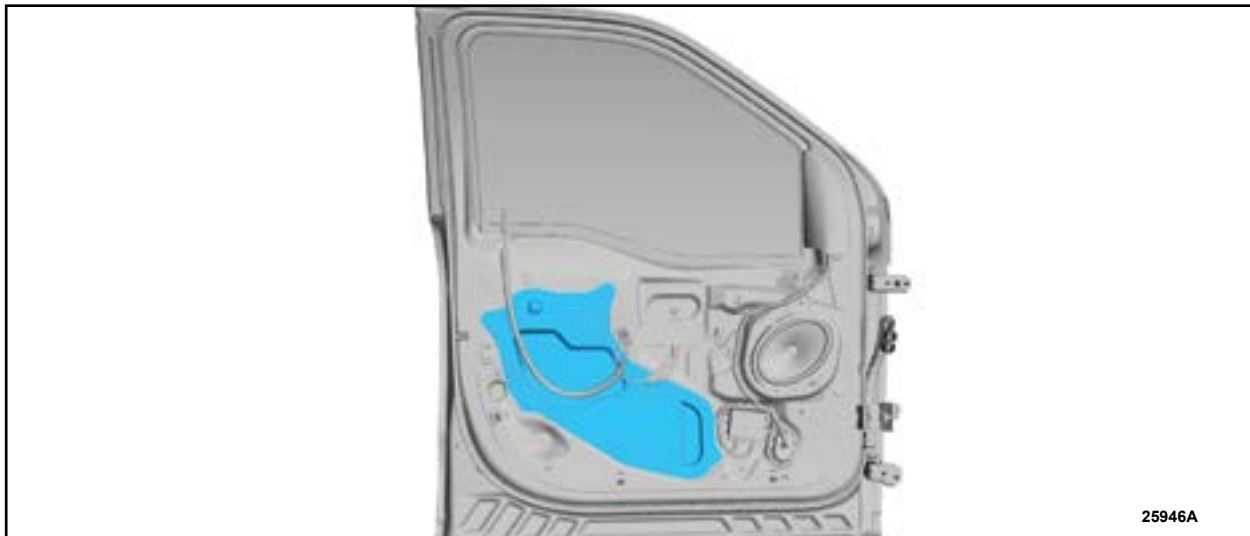

FIGURE 1
2. Remove the Left-Hand (LH) and Right-Hand (RH) front door trim panel. Follow Workshop Manual (WSM) procedures in Section 501-05.
3. Remove the LH and RH front door water shield. See Figure 1.